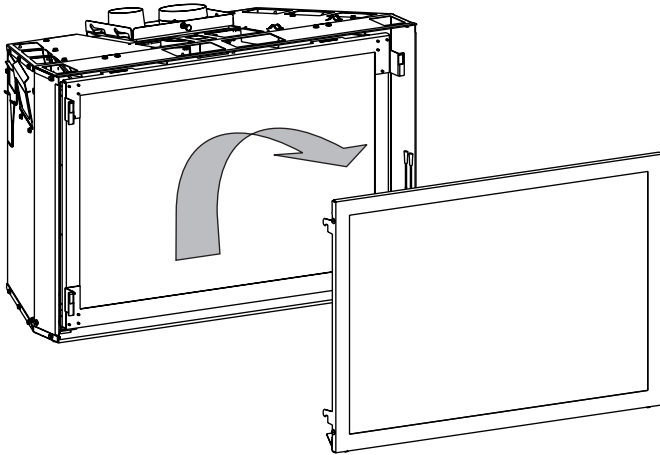

Figure 16
17. Remove barrier screen assembly by lifting the screen assembly and pulling it toward you. **See Figure 16.**